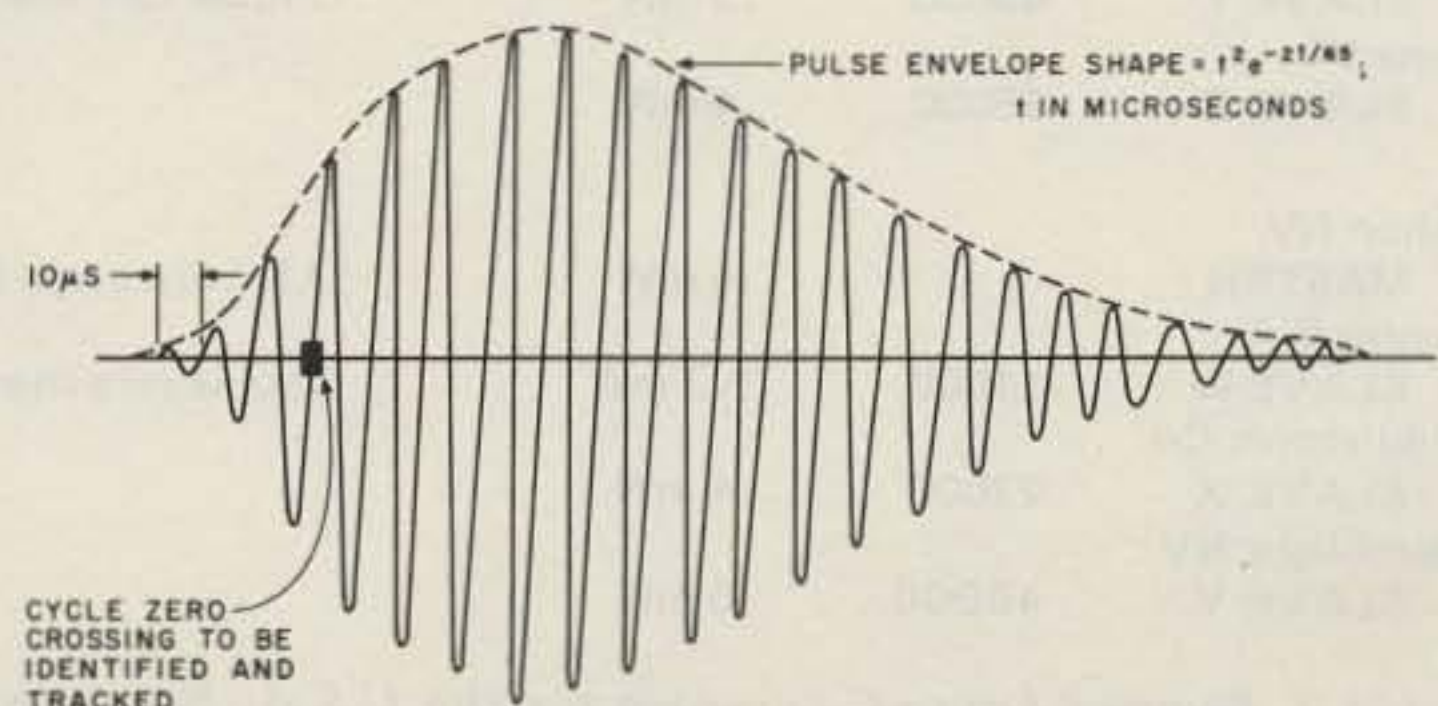

Fig. 3. Loran-C pulse.
The shape of each transmitted pulse is very carefully controlled at the transmitter so that the user can identify the third zero crossing of the 50% envelope amplitude point when using a hard-limiting type of receiver input circuit. It does not matter if a receiver chooses the second or fourth zero crossing here, but what is important is that the receiver must measure the same relative zero crossing for all signals used in the actual time-difference measurement. By determining one of these early zero crossings before 65 microseconds, as in Fig. 3, it is possible to largely eliminate sky wave contamination of the pulse envelope, which starts to rise after the first 30 microseconds in most of the user coverage area. The stations transmit groups of pulses, as illustrated in Fig. 4, with a known coding time delay (TD) which enables a receiver to predict when to start looking for the time differences in comparing a particular slave with the master. The pulses are also phase-coded so that further sophistication is possible in identifying stations and eliminating interference. The phase code repeats every other GRI and can be averaged out in a simplified measuring system. The GRI is a constant 99300 microseconds for the present east coast U.S.A. chain and 99400 microseconds for the west coast U.S.A. Thus a timer routine in the receiver sensor processor can be set to one of these known rates for navigation in a particular coverage area. The GRI and slave TDs become the initial conditions to tell the receiver what time differences to measure.